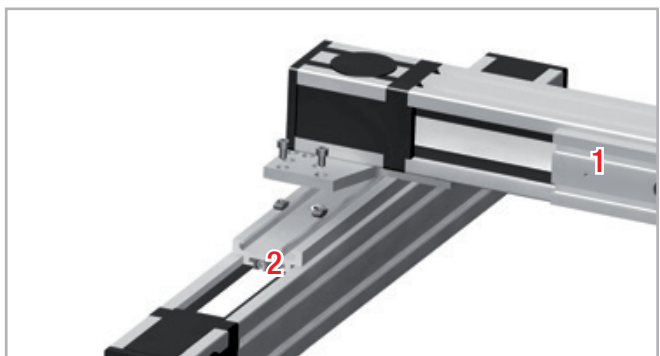

Fig. 91
4. To fasten the plate to unit 2, insert the screws from the the long side of unit 1 (see fig. 91).